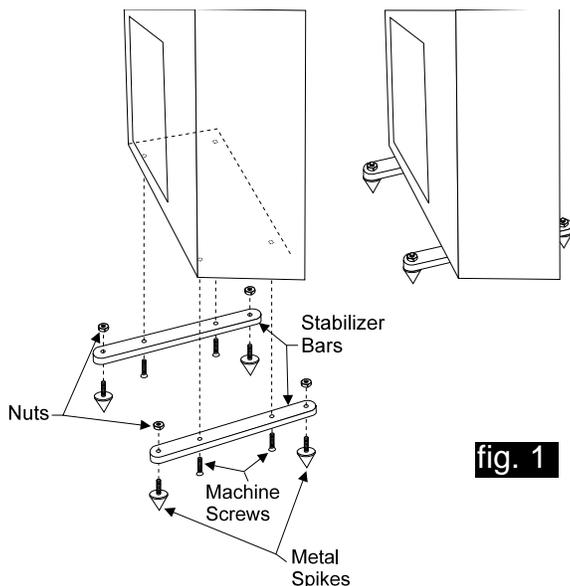

fig. 1
To begin assembly, unpack the SpikeKit and inspect all the parts. The SpikeKit includes: (2) aluminum stabilizer bars, (4) aluminum cones, (4) stainless steel alien studs, (1) alien head wrench, (8) Phillips head machine screws and (4) rubber feet. Important: We recommend installing only the stabilizer bars until final placement of the speakers is obtained. This makes the speakers much easier to move. Carefully turn the speaker upside down or on its back, and attach the stabilizer bars with the Phillips head machine screws, using a #3 Phillips screwdriver (fig. 1). When installing the bars onto the bottom of the speaker, use your fingers to start all the machine screws in their holes before tightening them down. This will prevent crossthreading.